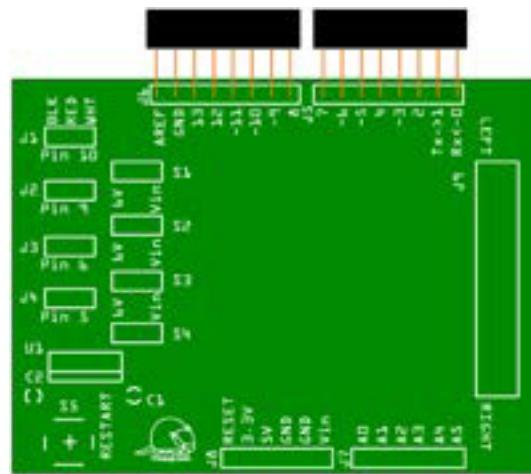

Figure HT3-4. Location to insert 8-pin stacking headers
- Insert the two 8-pin stacking headers into the positions marked J5 and J6, as shown in Figure HT3-4. Solder on bottom of the board.